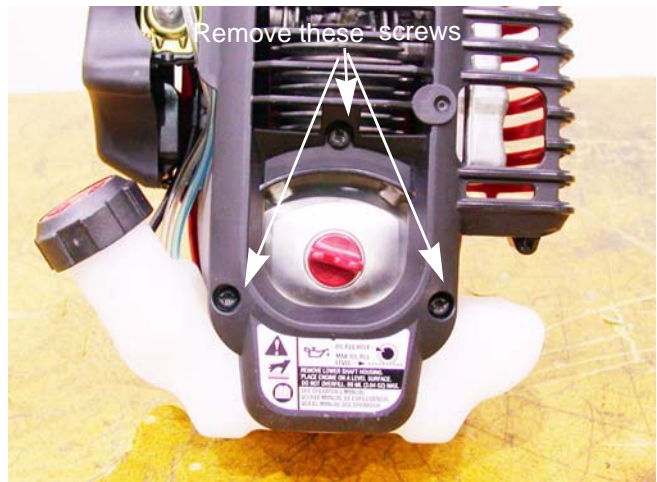

Figure 8.1
4. Remove the three screws that hold the engine cover to the engine using a T-25 torx driver. See Figure 8.1.